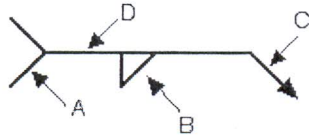

Figure 1
- a) Determine the types of welds used in Figure 1? (2marks)
- b) Based on labels (1-7) in Figure 1, which labels represents “weld toe” and “root of weld” respectively? (4marks)
- c) Give the name of labels (3), (5) and 7). (6marks)